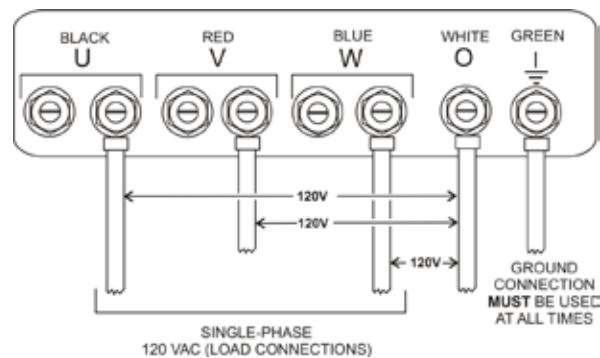

Figure 22. UVWO Terminal Lugs 1Ø-120V Connections
3. Connect the load wires to the UVWO terminals as shown in Figure 22.